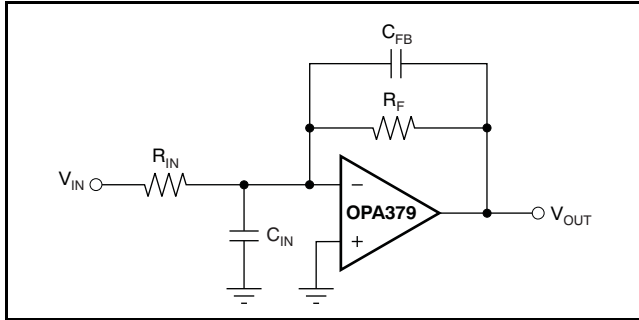

Figure 22. Improving Stability for Large R_F and R_{IN}
In unity-gain inverter configuration, phase margin can be reduced by the reaction between the capacitance at the op amp input and the gain setting resistors. Best performance is achieved by using smaller valued resistors. However, when large valued resistors cannot be avoided, a small (4pF to 6pF) capacitor, C_{FB} , can be inserted in the feedback, as shown in Figure 22. This configuration significantly reduces overshoot by compensating the effect of capacitance, C_{IN} , which includes the amplifier input capacitance (3pF) and printed circuit board (PC) parasitic capacitance.